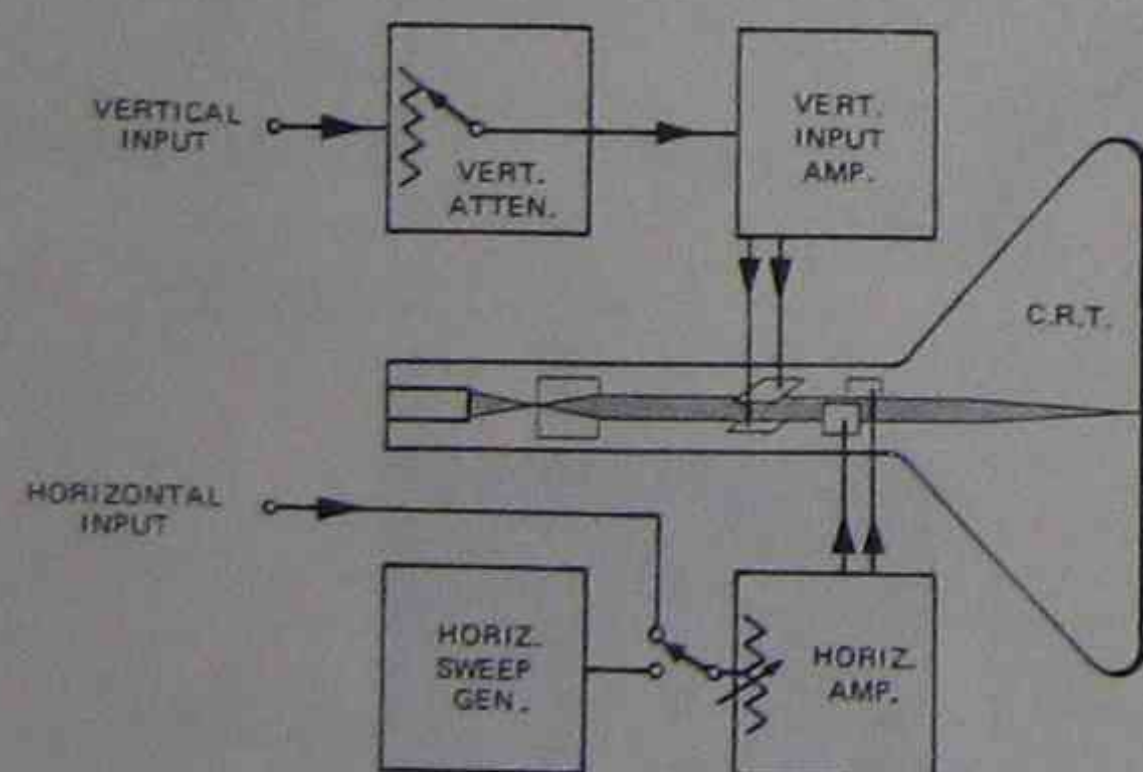

FIG. 18. C.R.T. WITH DEFLECTION AMPLIFIERS.
5.8 DEFLECTION SENSITIVITY. The distance that the beam is deflected by 1 volt change in signal voltage is called the deflection sensitivity and is expressed in centimetres per volt. The voltage required on cathode ray tube plates to deflect the beam is relatively high; ranging up to 60 volt (depending on the type of C.R.T.) to deflect the beam 1 cm. The signal voltage available is seldom large enough to produce significant deflection without the use of amplifiers. Amplifiers therefore are usually connected in both the vertical and horizontal deflection circuits, as shown in Fig. 18, to increase the deflection sensitivity of the instrument.
5.9 VERTICAL AMPLIFIER. The vertical amplifier in Fig. 18 must not introduce any noticeable distortion to the applied waveshapes. The gain must be made variable to permit different levels of signal to develop a large enough trace on the screen. Because it is much easier to design a distortionless variable attenuator than a distortionless variable gain amplifier, most oscilloscopes use a fixed gain amplifier in conjunction with a variable attenuator. The attenuator adjusts the level of the input signal so that the fixed gain amplifier produces the required output voltage for application to the vertical plates. Some higher quality instruments have a number of fixed gain amplifier stages which can be switched in or out of circuit to provide additional control of deflection sensitivity. Another function of the vertical amplifier is to provide isolation of the deflection plate capacitance from the signal source. This is necessary because this capacitance would alter the shape of the voltage waveshape and the C.R.T. display would not be a faithful reproduction of the source voltage waveshape.